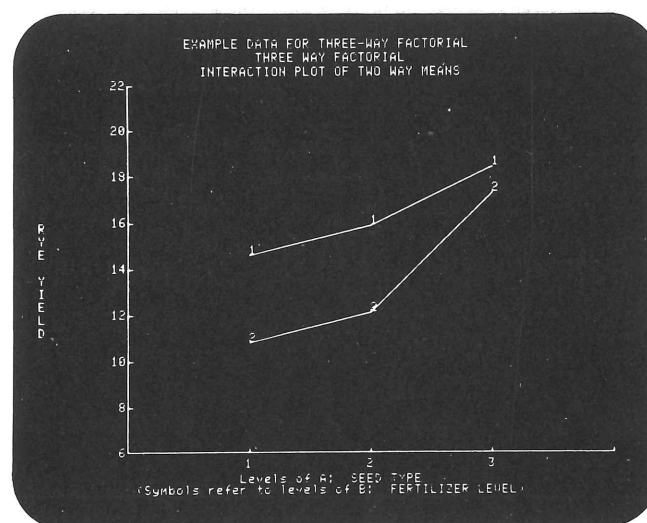

Figure 15. Interaction Plot for Two-Way Means.
5. Plot two-way means (see Figures 15 and 16).